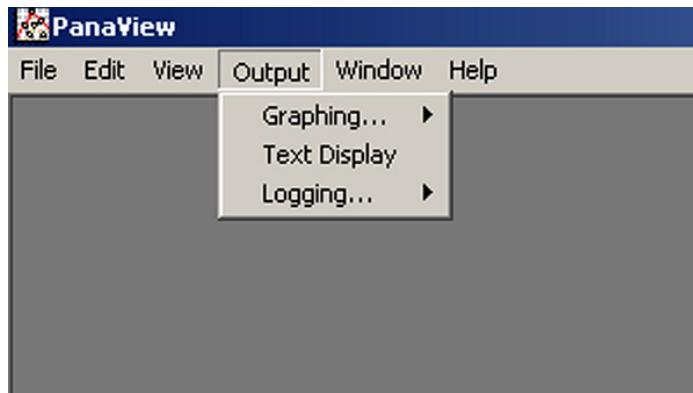

Figure 19: The output menu
1. In PanaView, open the Output menu (see Figure 19 below) and click on the Text Display option.